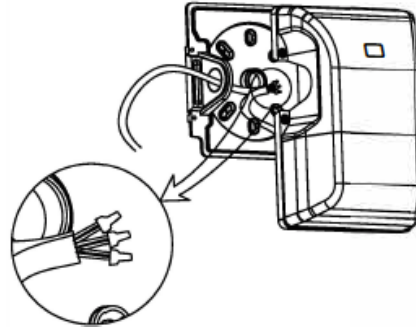

Fig. 9
6. Complete wiring connections and ensure positive grounding (fig. 9)